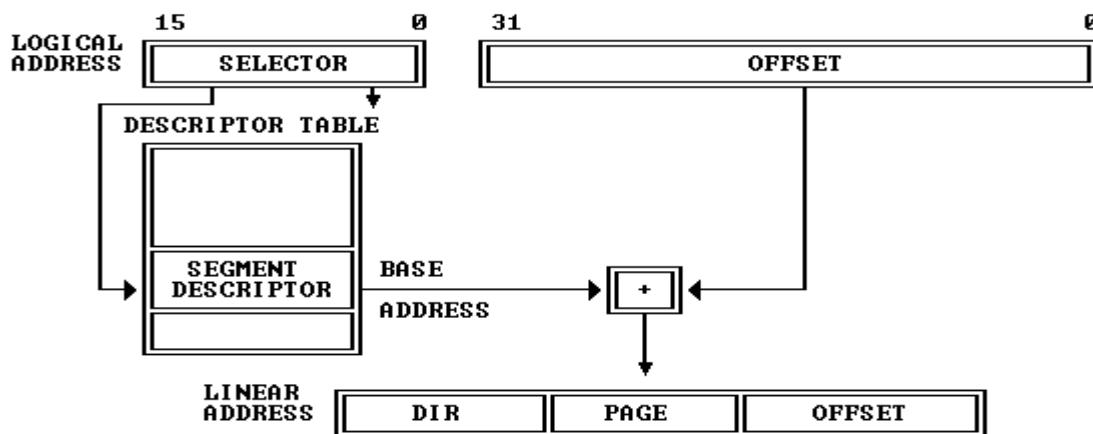

Figure 4.2: Segment Translation.
2. Figure 4.2 shows the segment translation.